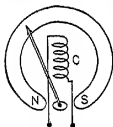

FIG. 255. Diagram of simple watch-case ammeter or voltmeter.
**136. Iron Vane Instruments.** A very sturdy type of construction for ammeter or voltmeter is shown in Fig. 255. Inexpensive watch-case instruments are similar to this type, as they will stand a lot of abuse. Around the inside of the case extends a circular permanent magnet with poles *N* and *S*. Directly between these poles is an oval piece of soft iron set in bearings